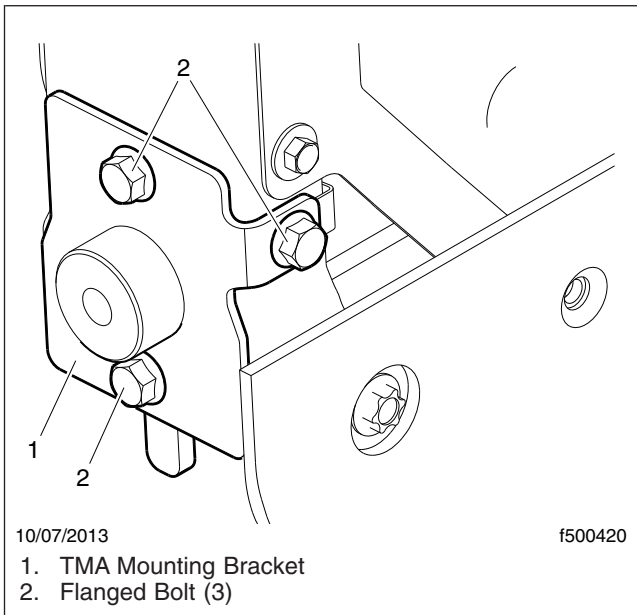

Fig. 8, Final TMA Mounting Bracket Installation
11. Install the two remaining M8 flange bolts through the bracket into the threaded plate as shown in Fig. 8. Tighten all three M8 flange bolts 17 lbf-ft (23 N·m).